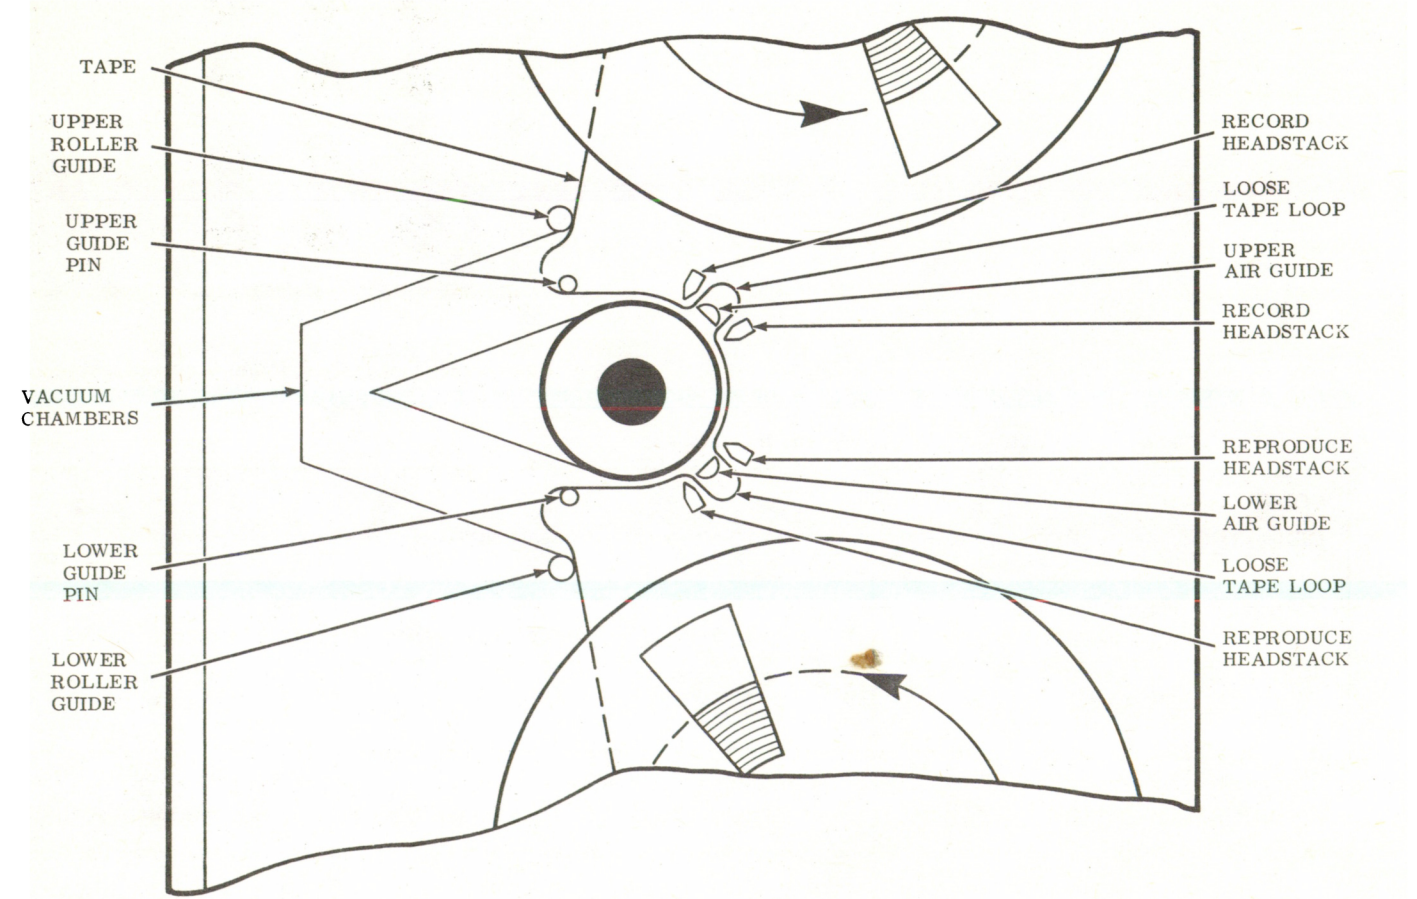

Figure 3-4. Tape Threading Path
The tape threading path is shown in Figure 3-4. The procedure for threading the tape is as follows:
- d. Thread the tape loosely in the head-capstan-air guide areas as shown in Figure 3-4. DO NOT FORCE the tape in between the capstan and heads or tape edge damage may result. To seat the tape correctly and to remove any tape loops rotate the capstan slowly in a clockwise direction while pulling the free end of the tape lightly.